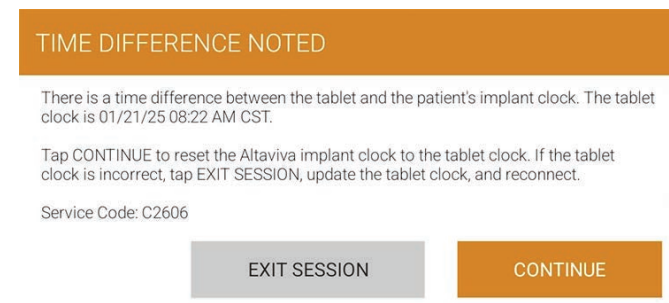

Figure 28. Time Difference Noted notification
- If there is a time difference of **more than 5 minutes** between the clinician tablet and the INS, a notification will appear alerting you to the discrepancy (Figure 28).